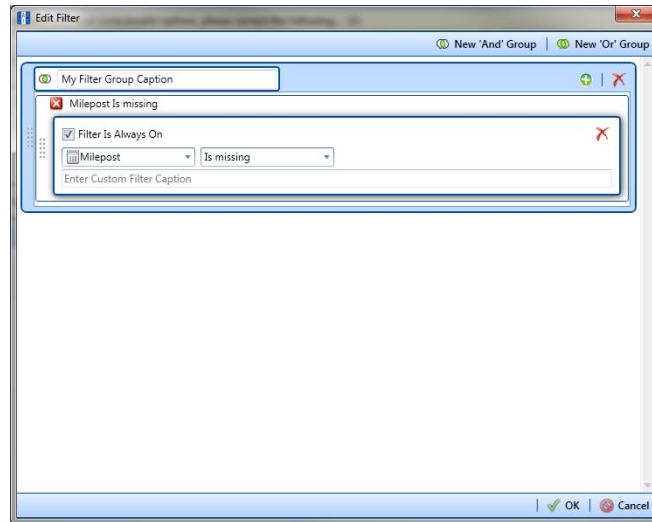

Figure 10-22. New 'And' Filter Group
- a Click  **New 'And' Group** to open the filter properties group box (Figure 10-22, page 476).